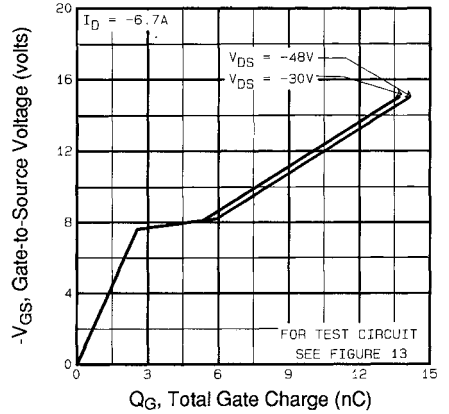

Fig 6. Typical Gate Charge Vs. Gate-to-Source Voltage
| Q _{gd} | Gate-to-Drain ("Miller") Charge | — | — | 5.1 | | V _{GS} =-10V See Fig. 6 and 13 ④ |